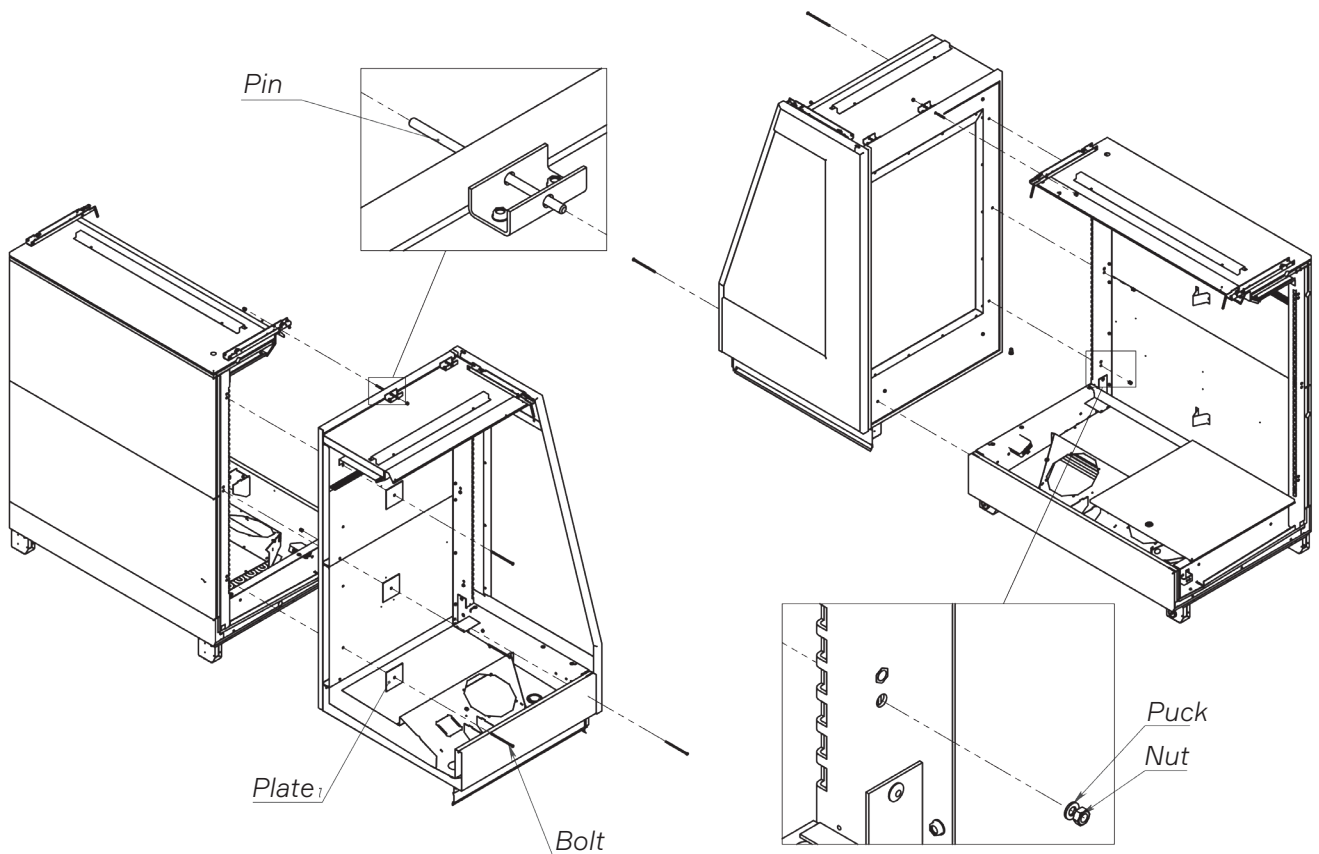

Fig. 19. Tightening end and linear multidecks
7. Connect the multidecks to the end multideck (Fig.19).